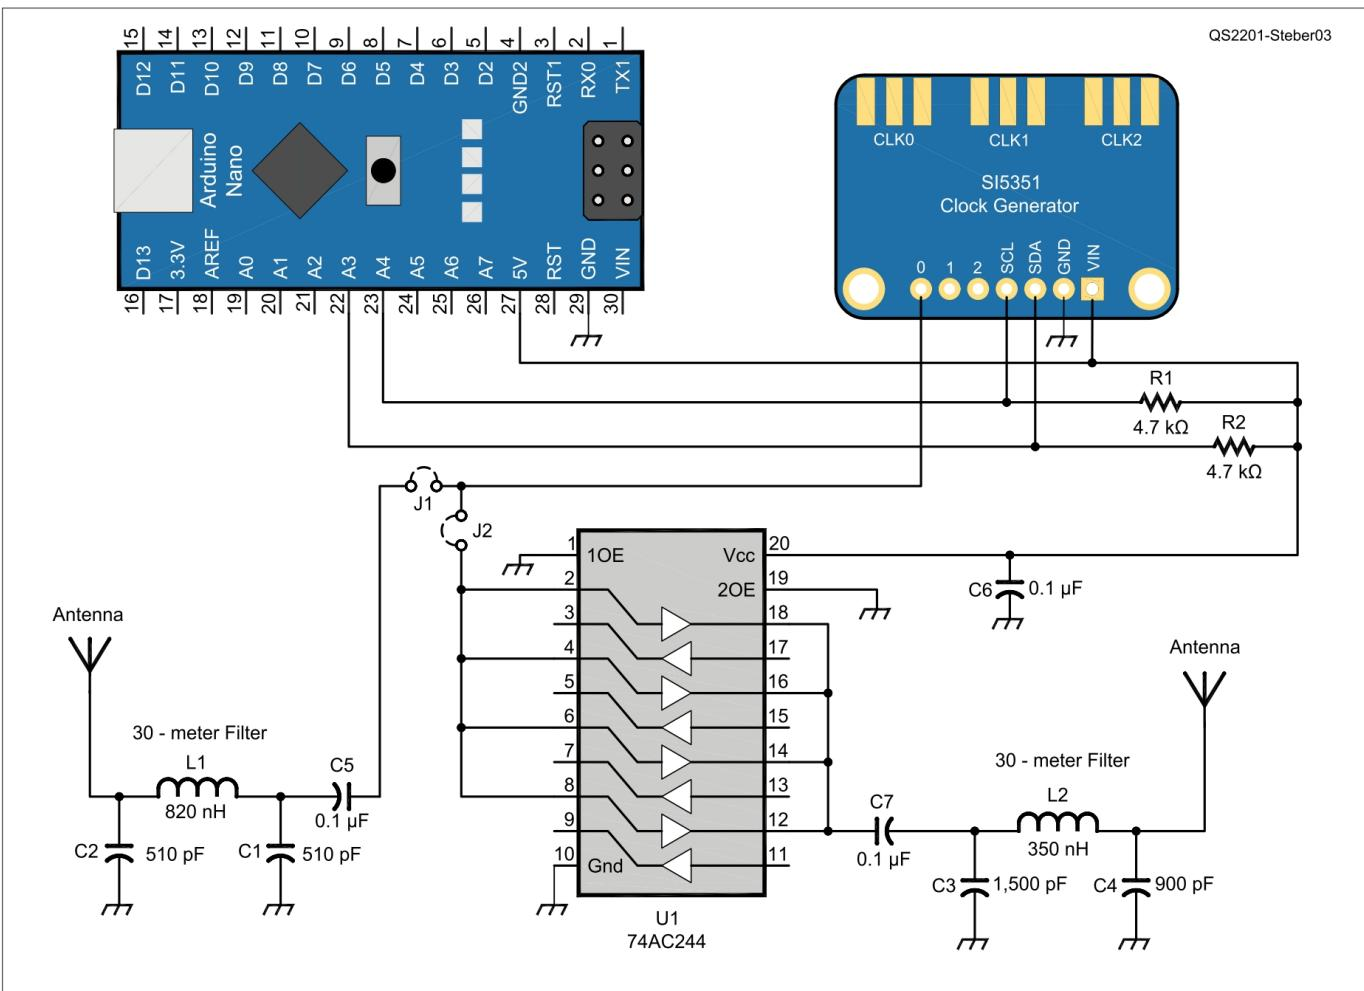

Figure 3 — A schematic diagram of the NanoWSPR multiband transmitter. All parts from Mouser Electronics or eBay.
A schematic for the transmitter is shown in Figure 3. There is very little wiring between the modules, and power is derived from the USB port. You need two 4.7 k Ω pullup resistors (R1, R2) on the SCL and SDA lines.
In Figure 3, there are two RF filters and a 74AC244 integrated circuit (IC). With J1 connected (and J2 open), a 30-meter filter is connected to the Clock 0 output of the Si5351 via capacitor C5. This is the low-power output, with transmitting power in the range of 10 to 20 mW. I designed the filter using RF Tools LC filters design at <https://rf-tools.com/lc-filter>. It is a $50\ \Omega$ terminated, third-order, 0.5 dB ripple Chebyshev filter for the 30-meter band.
For higher output power, connect J2 (and open J1) to use the 74AC244 IC. Four drivers are connected in parallel to provide 125 to 150 mW of power. If you want even more power, you can add the four other drivers in the chip in parallel to get up to 300 mW output. In designing a filter for the 74AC244, we want to match the four paralleled outputs of the 74AC244 — roughly $12\ \Omega$ — to the $50\ \Omega$ antenna. We need a 1:4 impedance matching filter. The 30-meter filter comprises C3, L2, and C4 in Figure 3. Use online filter design tools to design filters for other WSPR bands.